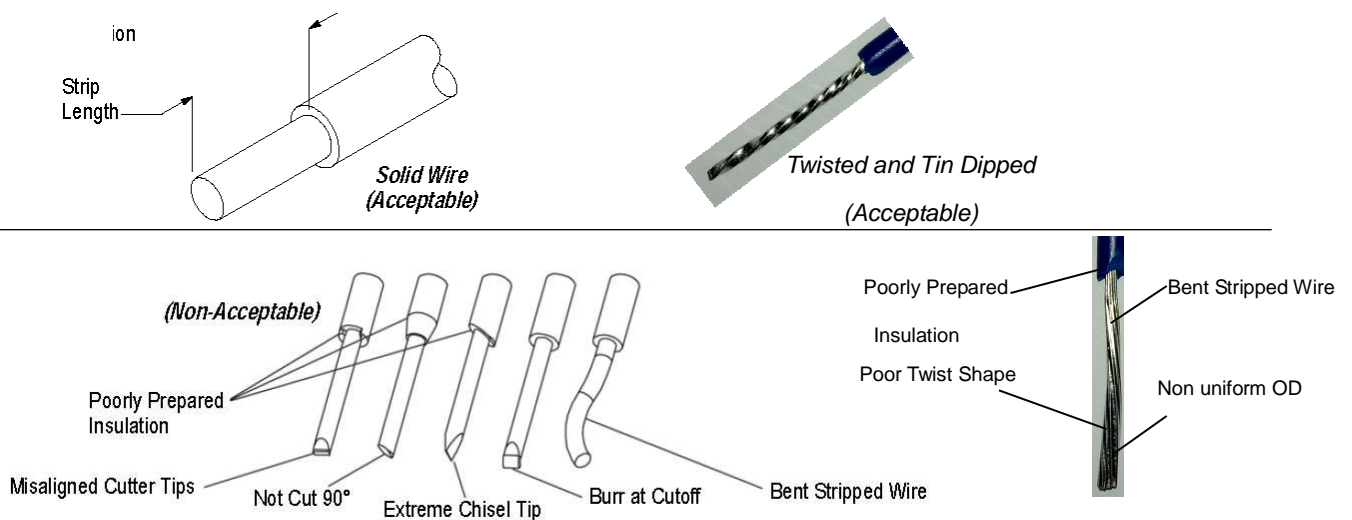

Figure 2
The wire strip length is $9.5 \pm 0.8\text{mm}$ for the poke-in slot with an insulation diameter of $\leq 2.8\text{mm}$. The typical unacceptable wire preparation example is shown on Figure 2.
2. If using customer-assembled connectors, strip two wires with applicable copper conductors provided in Figure 2, and having a maximum insulation diameter of 2.18 mm.